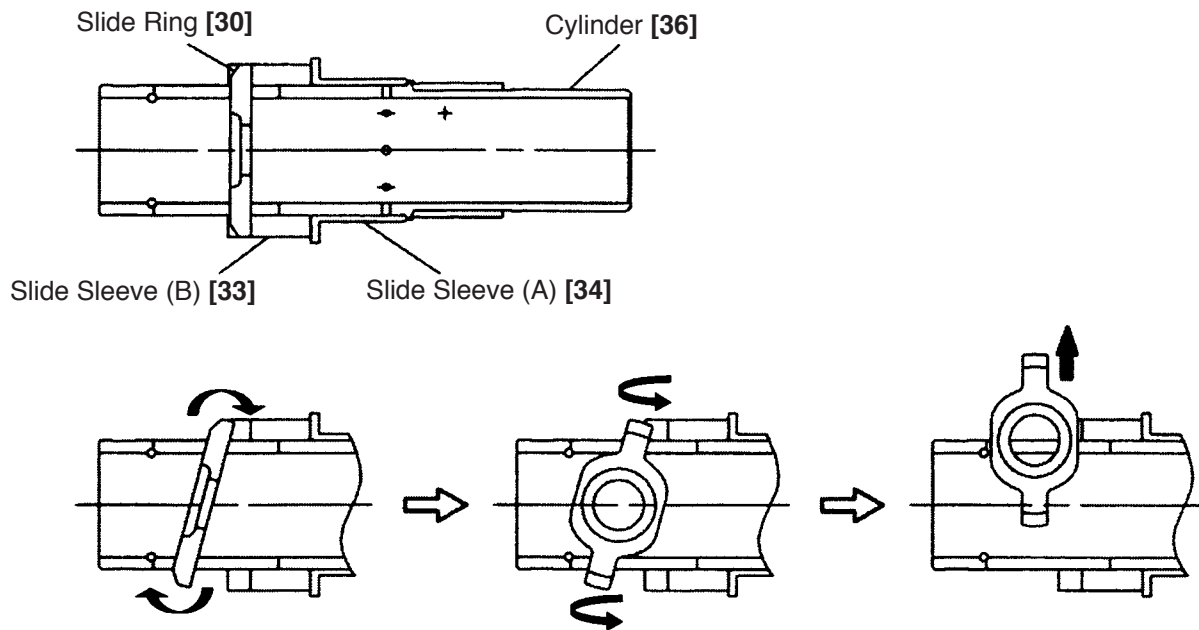

Fig. 17
Remove the Retaining Ring D38 [21] with a retaining ring puller and remove Sleeve (C) [20]. Remove the four Needle Pins [19] to separate the Retainer Sleeve [18] from the Cylinder [36]. Remove the Striker [31], Second Hammer [23], Damper Holder (B) [28] and Damper (C) [29] from the inside of the Cylinder [36]. As shown in Fig. 17, move Slide Sleeve (A) [34] and Slide Sleeve (B) [33] until they contact the outside flange of the Cylinder [36]. In this condition, slightly tilt the Slide Ring [30] to the axial direction of the Cylinder [36]. Turn the Slide Ring [30] on its protrusion by 90° to remove it from the slotted hole of the Cylinder [36].